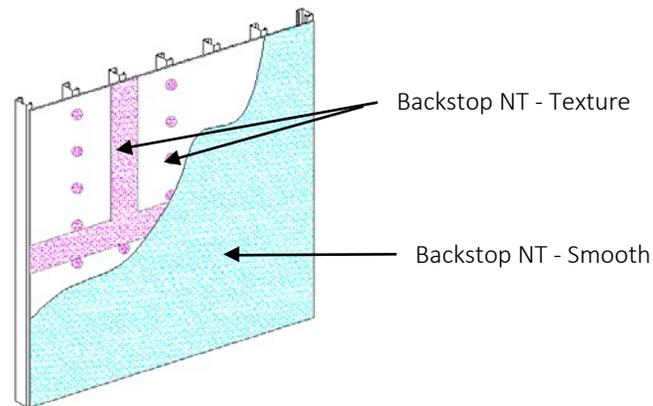

Fig. 19
- a. General: Dryvit Backstop NT - Smooth can be applied using a roller or sprayed and back-rolled over the acceptable sheathing substrates. **NOTE: OSB sheathing requires that joint and fasteners be treated with Backstop NT – Texture. A minimum of two (2) coats of Backstop NT – Smooth are required for the field of the wall. Backstop NT – Texture is not recommended for application in the field of the board.**
- 2) Backstop NT - Smooth material should be applied in a uniform, continuous film at the recommended coverage rate – Figure 19. **NOTE: Sheathing substrates with a surface texture or high porosity will require additional material.**